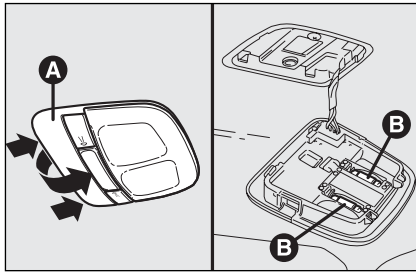

fig. 46
- remove the light unit **A**-fig. 46 levering in the points shown by the arrows (on retaining tabs);